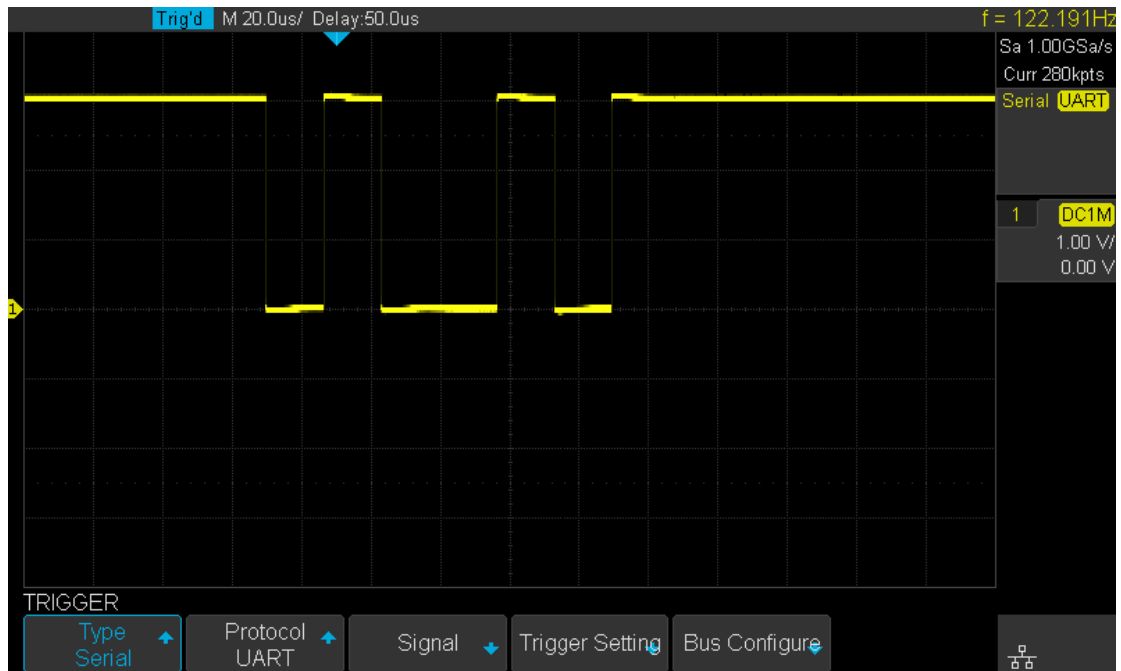

Figure 50 UART Trigger
4. Press **Signal** softkey to enter the **SIGNAL** menu as in Figure 50 below.